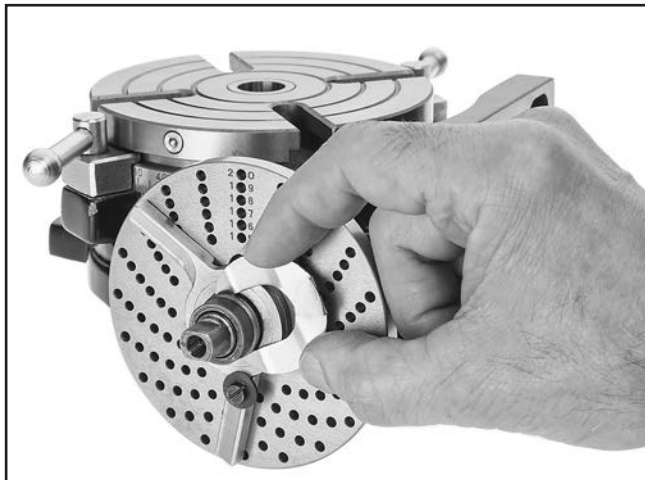

Figure 24. Inserting sector arm spring.
- Slide sector arm spring clip into slot on shaft to hold sector arms tight against dividing plate (see **Figure 24**).